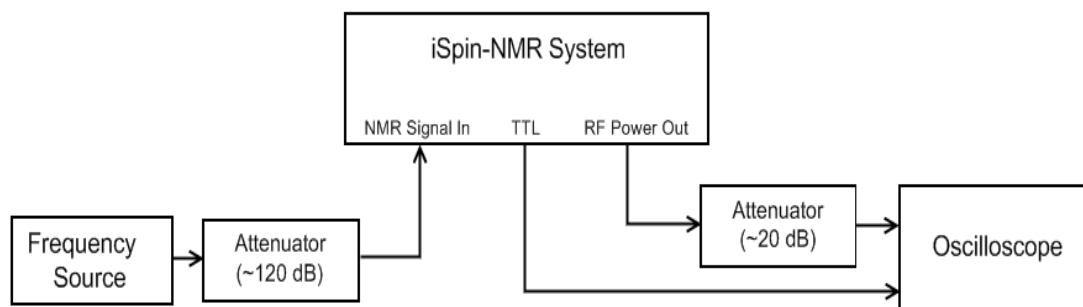

Figure 11: iSpin-NMR test setup.
2. Connect your iSpin-NMR system as shown in figure 11 below. Note that pin-4 on the TTL output DB-9 connector is the blanking signal and can be used to trigger the oscilloscope.